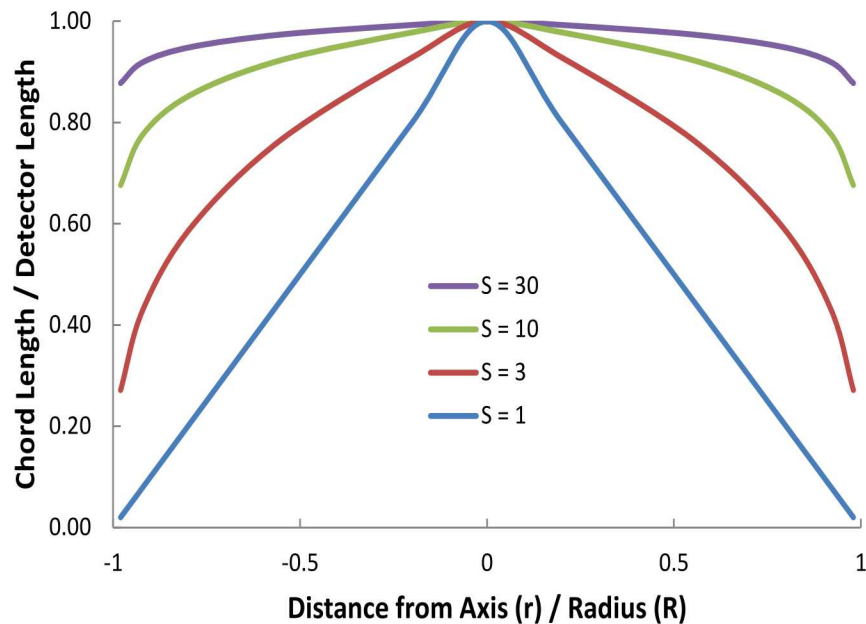

Figure 5. Detector Cross-section Profiles for Several Shape Factors
- **Shape Factor** is a parameter describing the distribution of path lengths through which incident radiation travels as it traverses the detector. The shape factor describes a continuous function that varies from about 3 for circular cross sections (e.g. radiation enters predominantly through side of a cylindrical detector) to about 100 for flat detector profiles (e.g. radiation enters through top or bottom of cylindrical detector). Figure 5 shows detector profiles for several shape factor values. Note that the detector shape can vary depending on the orientation of the radiation source with respect to the detector. In the case of a cylindrical detector oriented so that the radiation source is located on the axis of the detector, the value of S is about 100, which describes a flat profile.